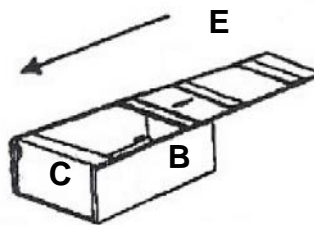

**Figure 4**
3. **Installing the Top and Bottom:** Gently spread side panels and insert top (D) and bottom (C) into grooves of side panel (B) until they touch the face frame (A) (Figure 4). Align them and lock each cam (Figure 5).